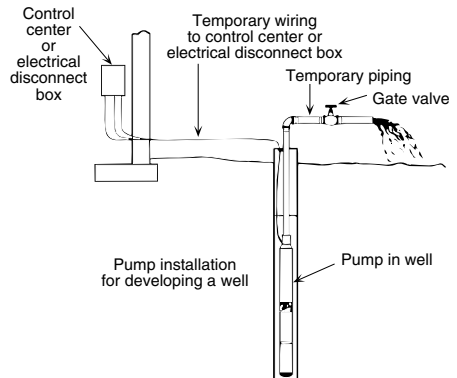

Figure 11 - Temporary connections while cleaning well for start-up.
1. Connect a pipe elbow, a short length of pipe and a gate valve to pump discharge at well head (see Figure 11).
5. Set gate valve on discharge 1/3 open; start pump (see Figure 11).